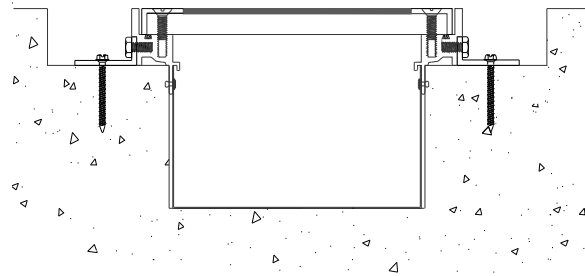

Figure 5
**STEP 5.** Place the trench cover back into its installed position. Ensure that the trench cover is level, flush, and properly aligned. Using the fasteners provided by the factory, attach the trench cover system to the substrate, see Figure 5.